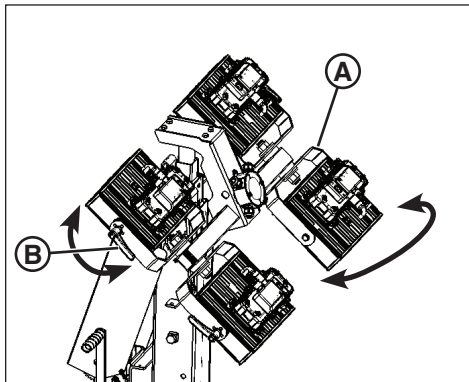

Figure 9
2. Grasp and swivel the fixture yoke (**A**, Figure 9) to adjust each fixture side to side.
3. Loosen the light fixture locking knob (**B**, Figure 9) to adjust each fixture up or down. Tighten the locking knob after adjusting.